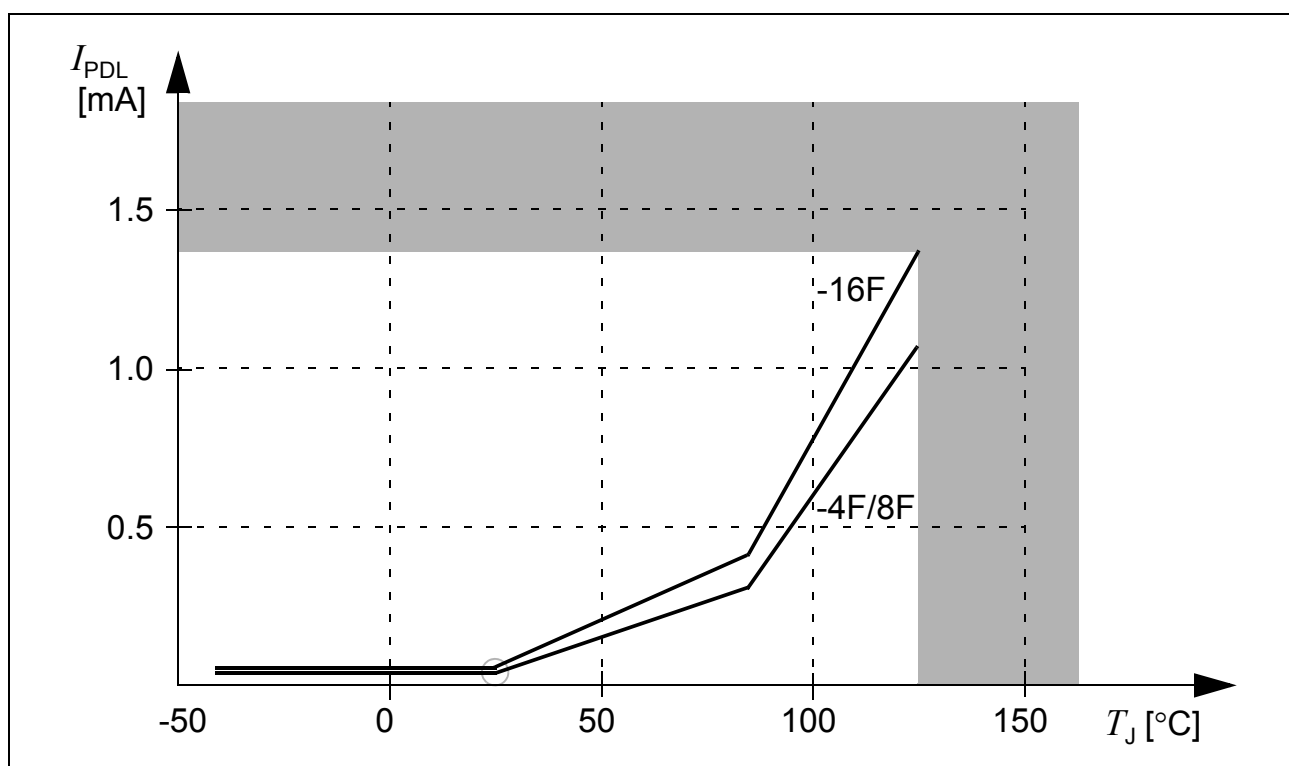

Figure 11 Sleep and Power Down Leakage Supply Current as a Function of Temperature
- 5) This parameter is determined mainly by the transistor leakage currents. This current heavily depends on the junction temperature (see Figure 11). The junction temperature T_J is the same as the ambient temperature T_A if no current flows through the port output drivers. Otherwise, the resulting temperature difference must be taken into account.